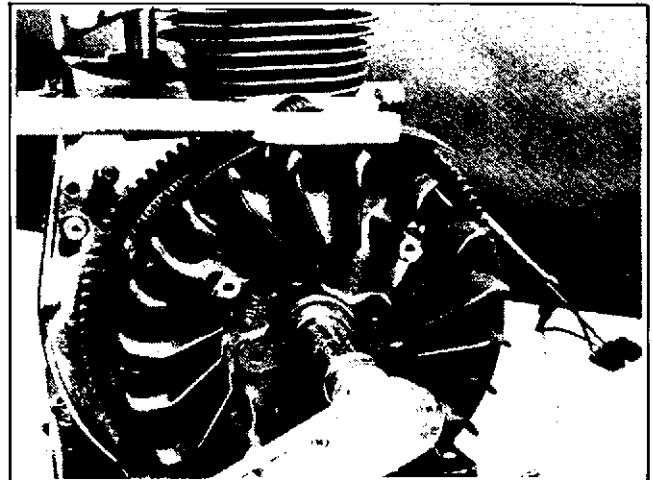

Figure 8-18. Torquing Flywheel
- Use a torque wrench and tighten the flywheel retaining nut to 60-70 ft. lbs. Use a strap wrench to hold flywheel while torquing nut (see Figure 8-18).